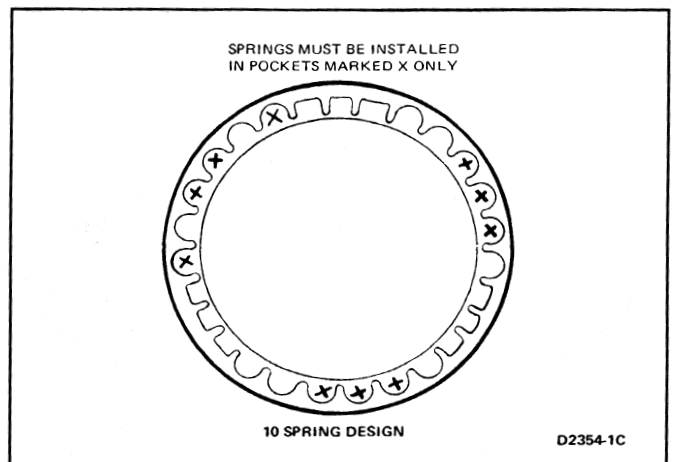

FIG. 46 Reverse-High Clutch Piston Return Spring Locations
4. Position the piston return springs in the piston sockets (Fig. 46). Place the spring retainer on the springs.